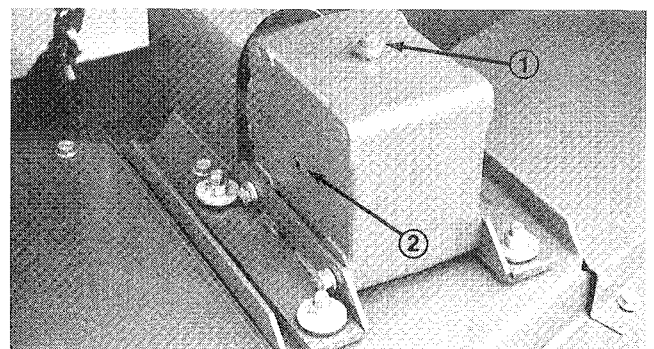

Figure 13
2. Remove check plug from side of gear box (Fig. 13) and make sure lubricant is up to bottom of hole. If level of lubricant is low, remove fill plug on top of gear case and add enough lubricant to bring it up to bottom of hole in side.